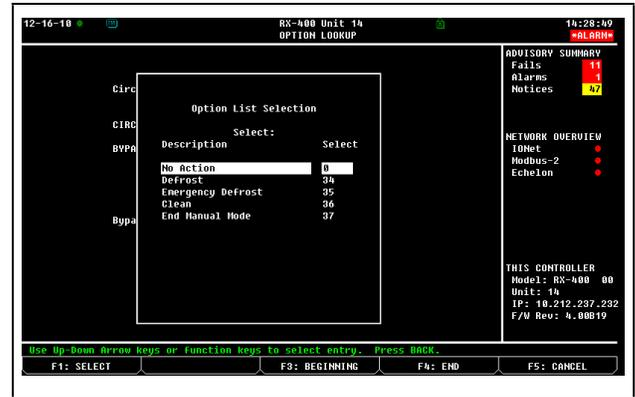

Figure 3-7 - Option List Selection Screen
5. Press **F4** LOOK UP. The Option List Selection screen (see **Figure 3-7**) will give you five choices of defrost modes.